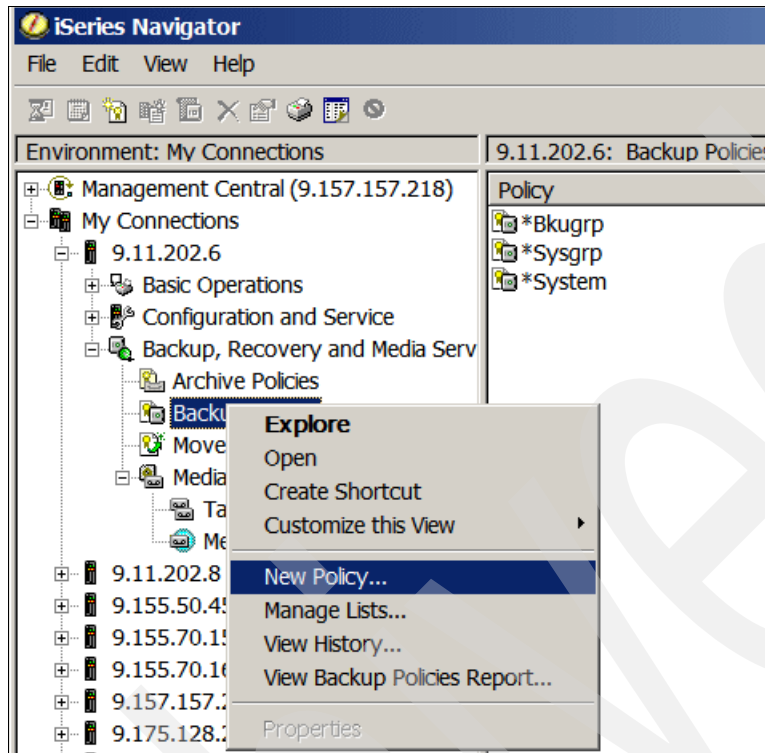

Figure 6-13 Create new backup policy
2. To create a new backup policy, right-click **Backup Policies** in the left iSeries Navigator panel. Select **New Policy** from the pull-down menu that pops up, as shown in Figure 6-13.